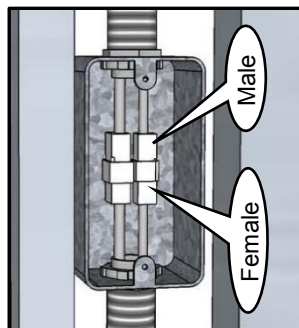

Figure 12
- On 2-stop dumbwaiters, one set of wires has female connectors and the other set has male connectors. Match up each male and female connector and seat them firmly together. (see Figure 12)